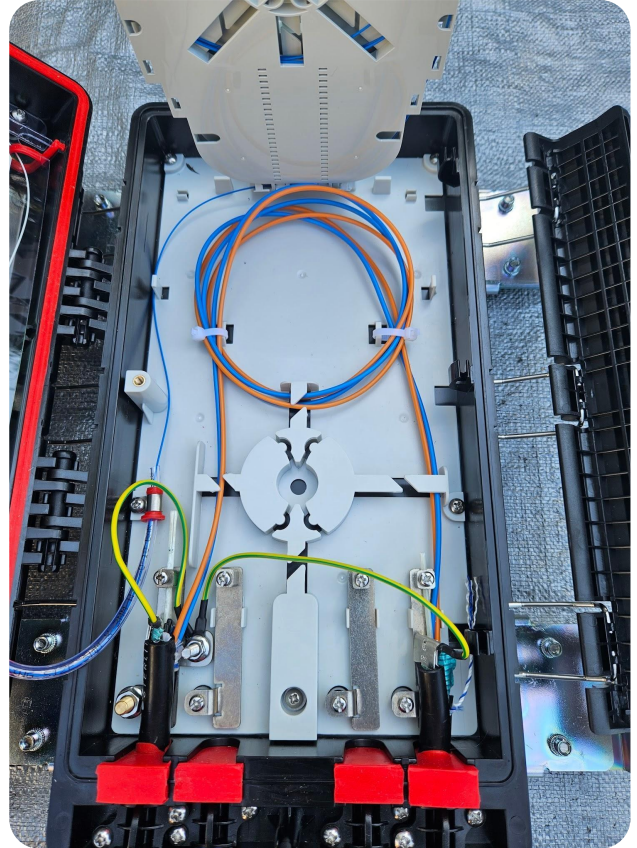

Fig. 6b
- Utilize tie wraps to secure buffer tube bundles as shown in Fig. 6b